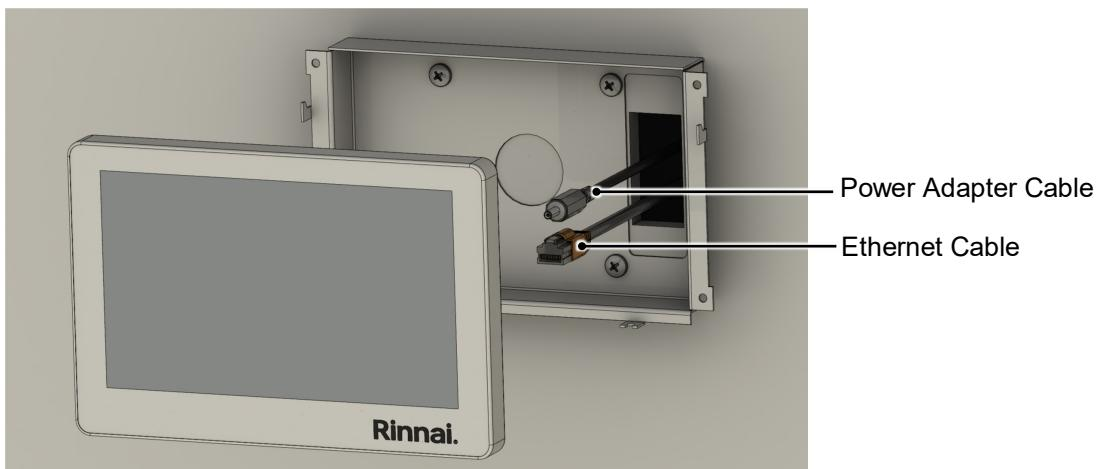

Fig 22. Route the Cables
5. Route the 12V DC Power Adapter cable (supplied) and Ethernet cable (customer-supplied) behind the bracket before connecting to the user interface (Fig 22).